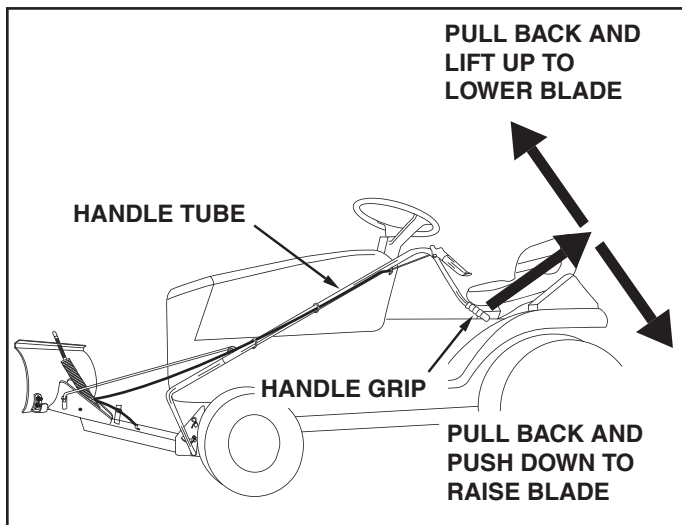

FIGURE 25
- Use the handle grip located on the end of the handle tube. To raise the blade, pull back while pushing down on the handle grip. To lower blade, pull back while lifting up on handle grip. See figure 25.